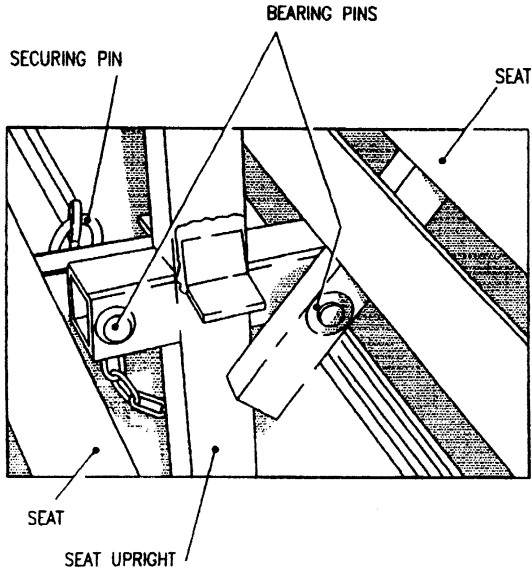

Fig 35 Seat locking arrangements
66.4 Release the webbing securing straps and lower the seats into position (Fig 35).